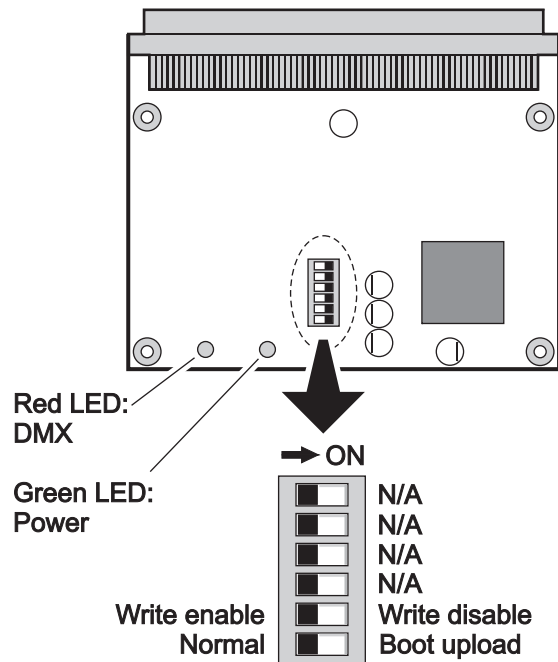

Figure 12: Main PCB and DIP switch
3. See Figure 12. Locate the 6-pin DIP-switch on the PCB and move pin 6 to **ON** (boot mode upload enable).